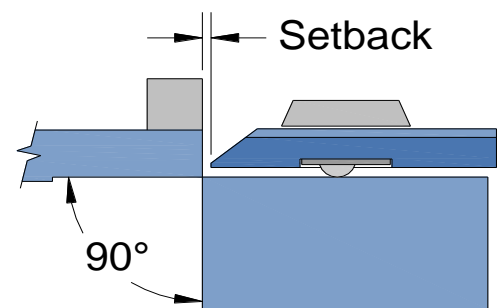

figure 7
3. Set the machine setback for the material thickness you will be bending. Raise the bending leaf 90° as shown in (fig. 7).
4. Rotate the setback screws (B) on each end of the clamping bar which adjusts the setback distance gap. Set this gap at slightly more than the material thickness to achieve an accurate bend.